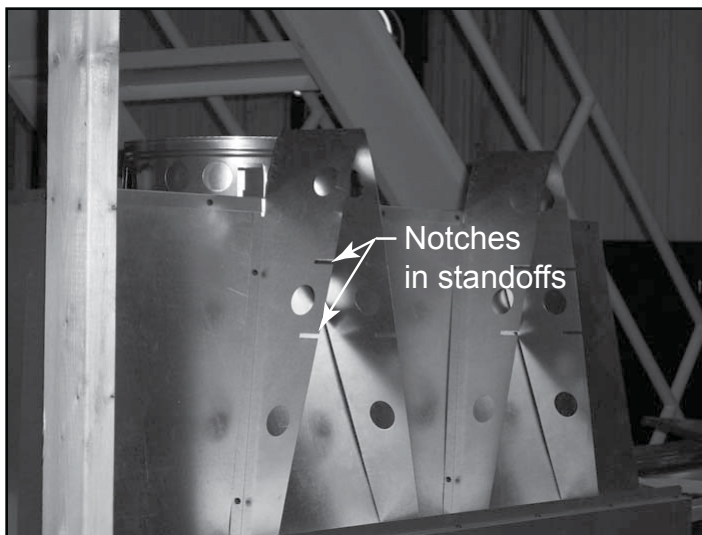

Figure 12.13 Notch in Standoffs
- Place the track into the notches (shown in Figure 12.13) on the front standoffs and secure to the framing on both sides of the fireplace (Figure 12.14).